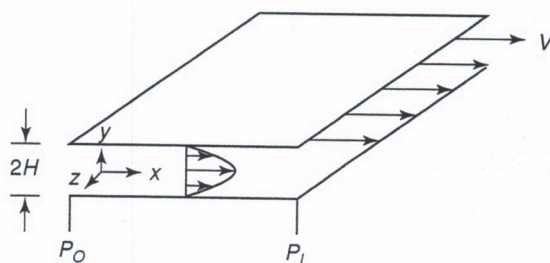

Figure 3.37
24. The x -component of a velocity field is given here (expressed in Cartesian coordinates). This velocity profile results from pressure-driven flow through a slit with the top wall moving at velocity V (Figure 3.37). What is the average value of the velocity? $2H$ is the gap between the plates, a pressure gradient $\Delta P/L$ is imposed, and the fluid viscosity is μ . At what location is the velocity a maximum?